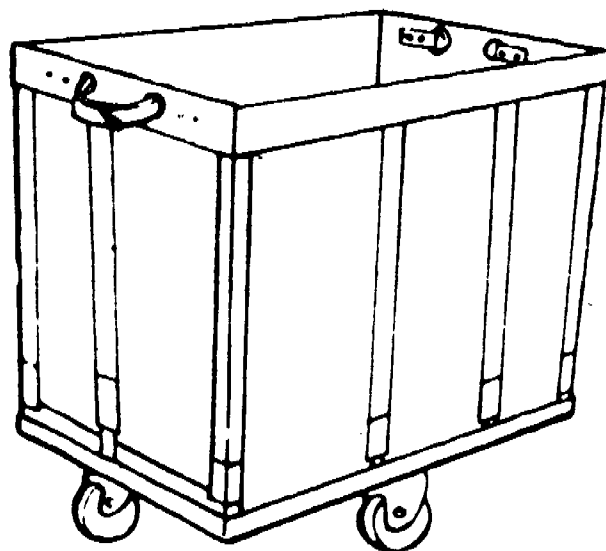

Figure 2-2. Basket with nonremovable liner.
b. Basket with nonremovable liner. This basket (fig. 2-2) has an olive-drab, nonremovable canvas liner with carrying handles, and is caster mounted. The 16-bushel basket is about 42 inches long, 30 inches wide, and 28 inches deep; and the 18-bushel basket is 42 inches long, 30 inches wide, and 30 inches deep.